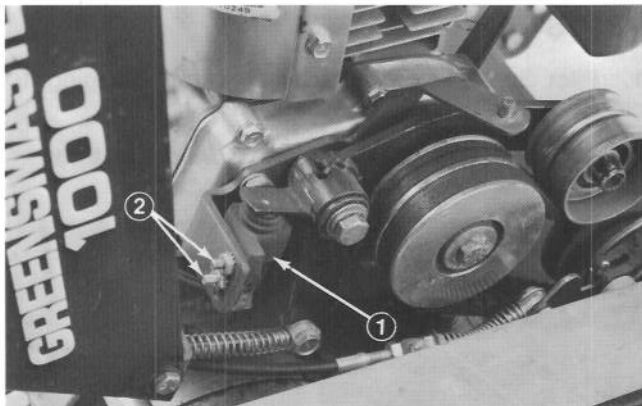

Figure 43
2. Loosen (2) switch mounting nuts (Fig. 43) and move switch up until switch contacts are closed. Check continuity with a meter.